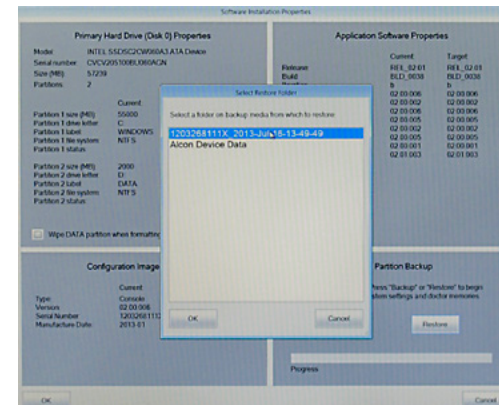

Figure 4-21 Selecting the Restore File
- 4.2.4 Select the appropriate data file and click OK (see Figure 4-21).